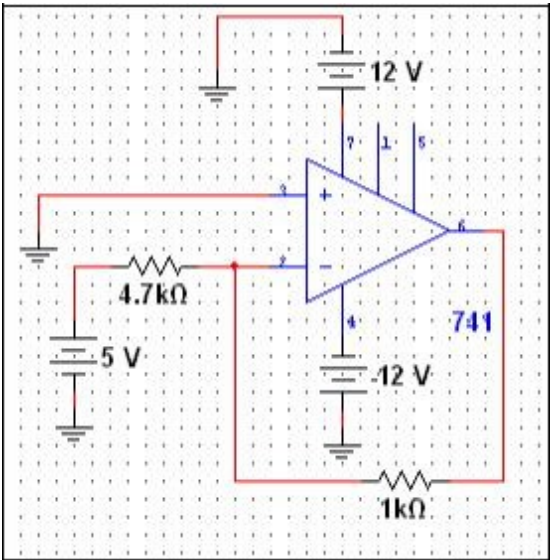

Figure 7.1: Exercise 1
- An inverting amplifier is shown in figure 7.1. The principal features of this circuit are that the output voltage is the negative of the input voltage and is amplified by a gain that depends only on the feedback resistance between the source and the input terminal.